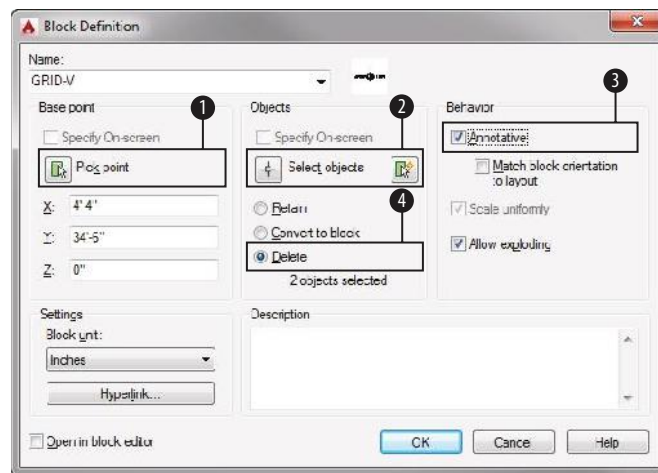

FIGURE 9.7: The Block Definition dialog box for the GRID-V attribute block
9. Verify that the Block Definition dialog box looks like Figure 9.7, and click OK.